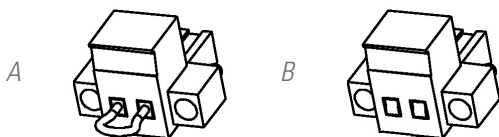

Fig. 10. Connector for external EPO.
- The device is dispatched from the factory with its EPO circuit set to closed (NC) by default. In other words, the UPS will cut the output power supply, emergency power off, when the circuit is opened:
- Either by removing the female connector from the socket where it is inserted. This connector has a cable connected as a jumper that closes the circuit (see Fig. 10-A).
- Or by pressing the button external to the device belonging to the user installed between the terminals of the connector (see Fig. 10-B). The connection on the button must be in the normally closed contact (NC), so it will open the circuit when activated.